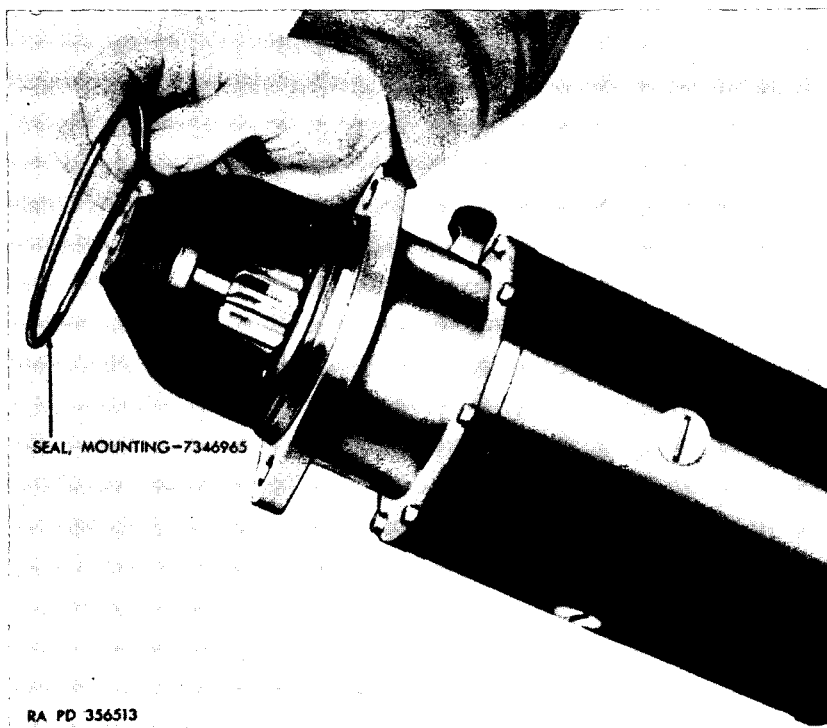

Figure 98. Installing mounting seal on starter housing.
- (1) Install new mounting seal on starter housing (fig. 98).
- (2) When installing the starter some difficulty may be experienced due to interference with the distributor assembly. However, if the distributor is loosened and rotated clockwise, the starter will clear and can be easily installed. After locating the starter in its proper position, install nuts and lock washers and tighten securely. Retime ignition.
- (3) Screw the oil level gage pipe into the cylinder block and place the oil level bayonet type gage, with cap, assembly in position in the pipe.